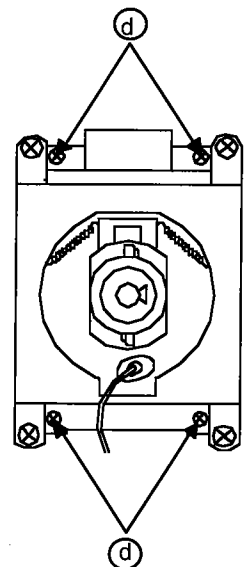

Fig 5-6
1. Carefully position the replacement CRT and fasten in place using 4 screws "d" shown in Fig. 5-6.